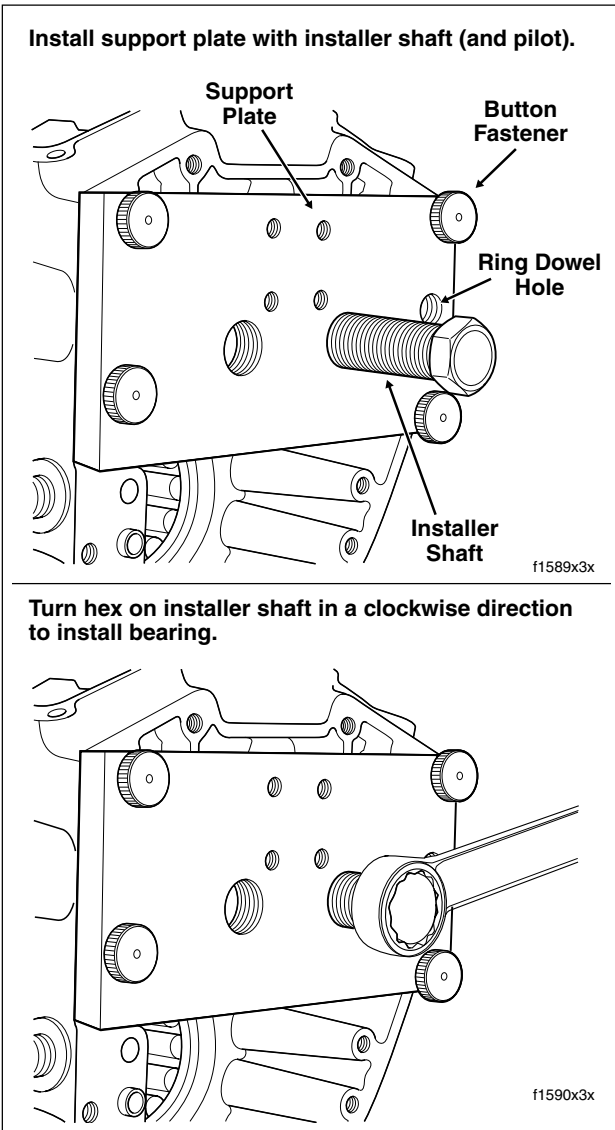

Figure 3-120. Install Cam Needle Bearing
7. Align four holes at corners of support plate with threaded holes in crankcase flange. Install button fasteners in these holes to secure support plate to crankcase. See upper frame of Figure 3-120.
8. Using 15/16 inch open end wrench, turn hex at end of installer shaft in a clockwise direction until resistance is felt. See lower frame of Figure 3-120.